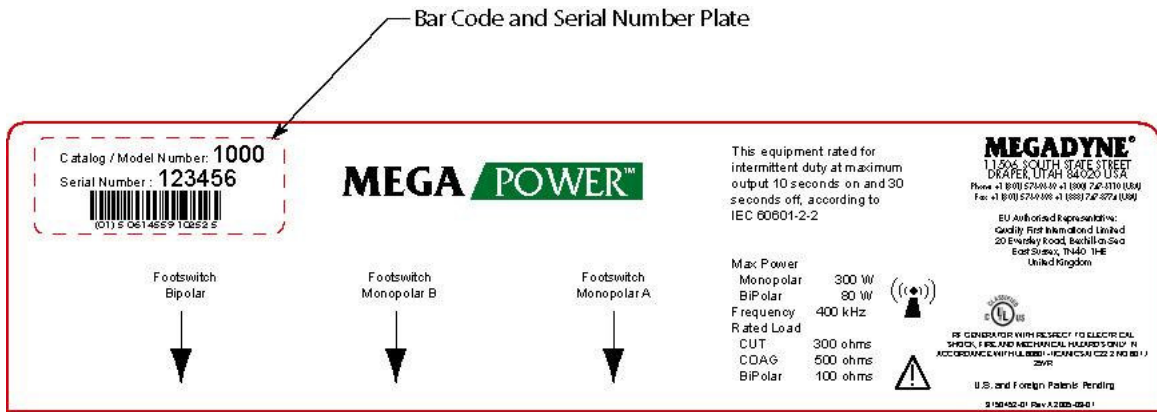

Figure 9
7. Bar Code and Serial Number Plate: The unique serial number is listed on the plate with a corresponding bar code (figure 9).